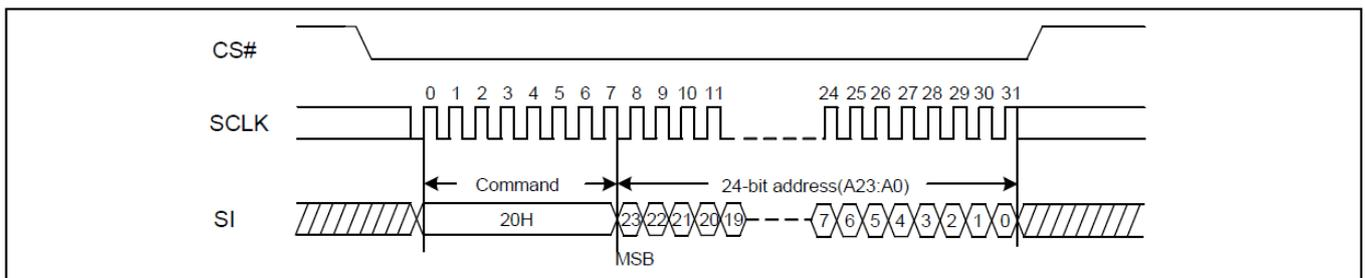

Figure8. Sector Erase Sequence Diagram
The Sector Erase command sequence: CS# goes low sending Sector Erase command 3-byte address on SI CS# goes high. The command sequence is shown in Figure8. CS# must be driven high after the eighth bit of the last address byte has been latched in; otherwise the Sector Erase (SE) command is not executed. As soon as CS# is driven high, the self-timed Sector Erase cycle (whose duration is tSE) is initiated.